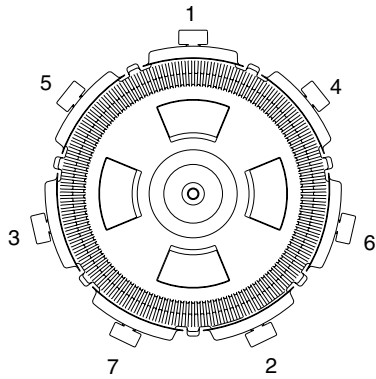

FIGURE 4 - 21" Filter clamp tightening sequence.
- See Figures 4 and 5 for clamp tightening sequence. Tighten all clamp knobs securely hand tight.